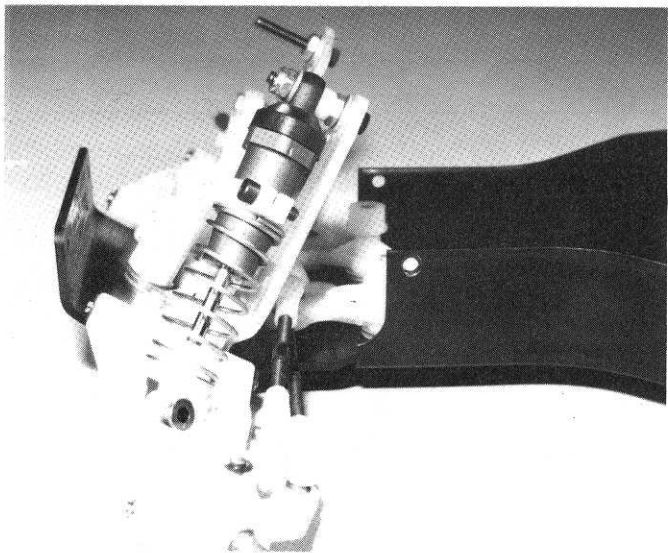

Fig. 108
□ **Fig. 108** Slip the shock on the upper mount and install a locking nut. DO NOT tighten down too tight on this nut or you'll bind up the shock. Squeeze the bottom end of the shock up and then slip the end down into the lower "A" arm slot, with the flat side of the ball to the rear.